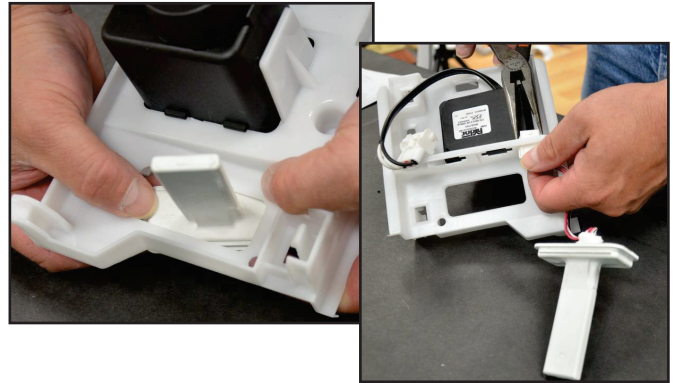

FIGURE 17
**NOTE:** The water level sensor cannot be checked with a meter - use the diagnostic program step #10. See *Figure 17*.